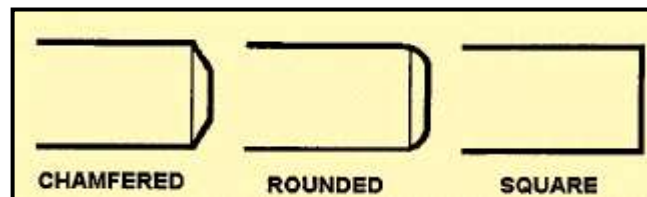

Figure 7-54. Corners.
**Corners:** Corners are turned on the edges of work to break down sharp edges and to add to the general appearance of the work. Common types of corners are chamfered, rounded, and square. Chamfered (or angular) corners may be turned with the side of a turning tool or the end of a square tool bit, as in angular shoulder turning. Round corners are produced by turning a small radius on the ends of the work. The radius may be formed by hand manipulation of the cross slide and carriage using a turning tool. An easier method is to use a tool bit specifically ground for the shape of the desired corner. Still another method is to file the radius with a standard file. A square corner is simply what is left when making a shoulder and no machining is needed. (Figure 7-54).